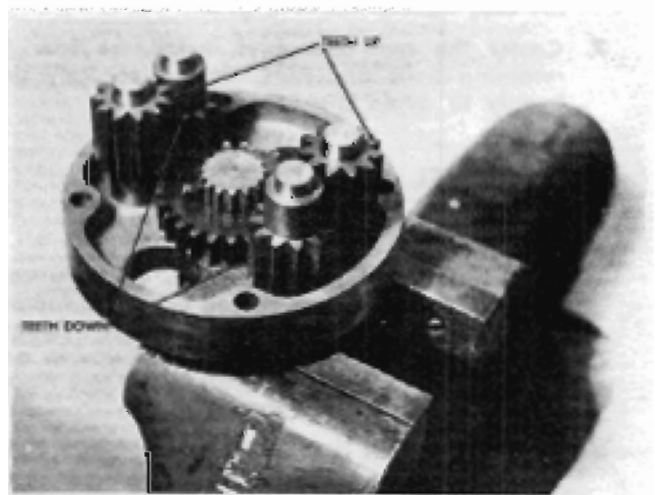

FIGURE 1
1. Remove the four (4) retaining bolts and nuts.
5. Note position of the four (4) pinions. Adjacent pinions are installed in opposite directions, which make the position of the diagonally opposite pinions the same. See Figure 1.
2. Install one of the axle and gear assemblies in the differential case and install the four (4) pinion shafts.
3. Install two (2) pinions with their teeth up diagonally opposite each other, and install the other two (2) pinions with their teeth down diagonally opposite each other. See Figure 1.
7. Center the bull gear and install the four (4) retaining bolts and nuts. Tighten securely and evenly to avoid distortion.